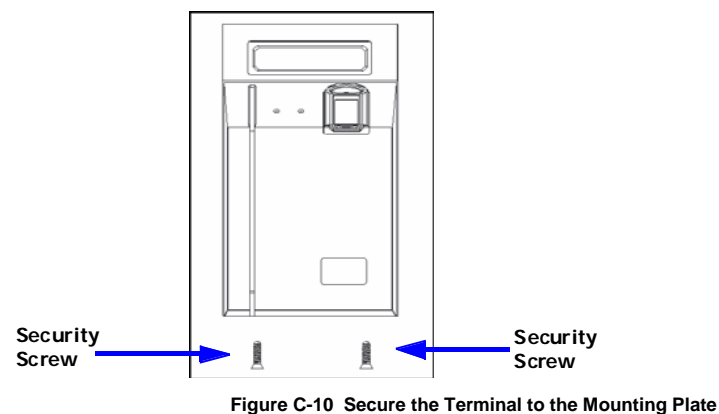

Figure C-10 Secure the Terminal to the Mounting Plate
12. Secure the terminal to the mounting plate by screwing the two security screws to the bottom of the terminal, an example of which is shown in **Figure C-10**.